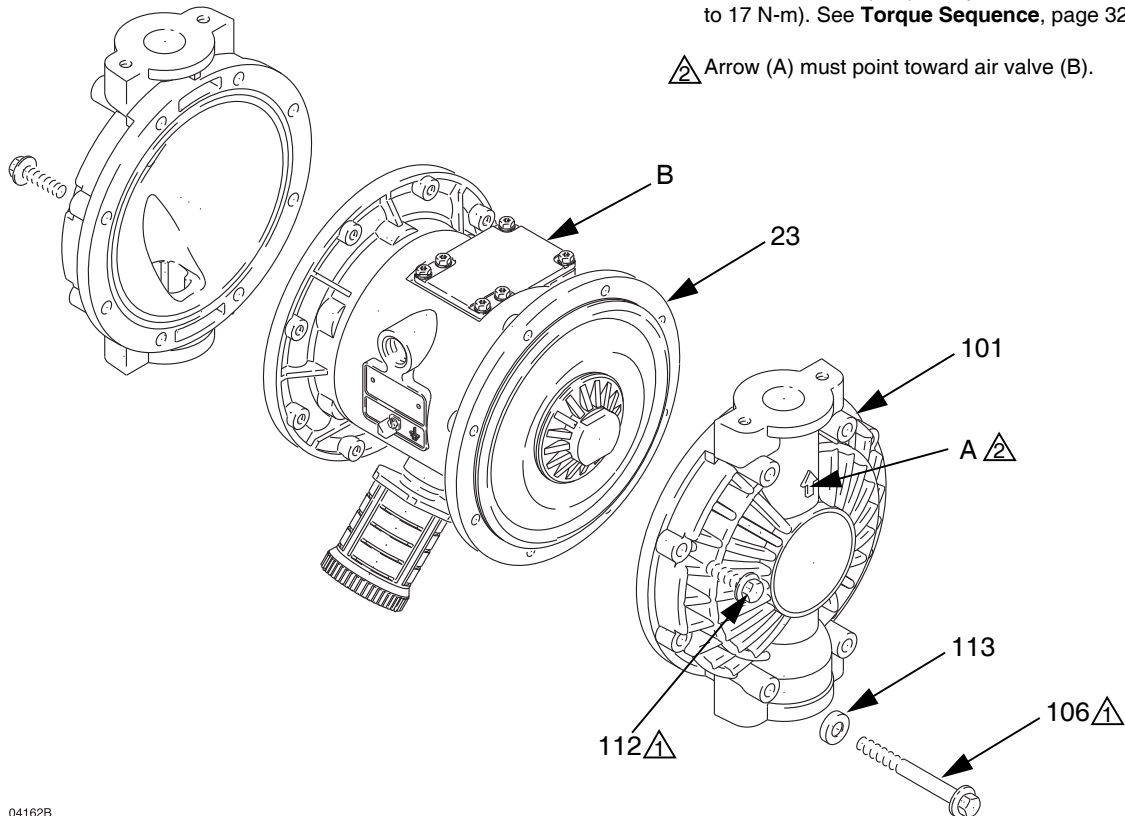

Fig. 12
3. Using a 10 mm socket wrench, remove the screws (106 and 112) holding the fluid covers (101) to the air covers (23). Pull the fluid covers (101) off the pump. See Fig. 12.
4. Apply medium-strength (blue) Loctite® or equivalent to the threads of the fluid-side plates (105). Hold one of the outer plates (105) with a wrench, and torque the other outer plate to 20 to 25 ft-lb (27 to 34 N-m at 100 rpm maximum). **Do not over-torque.**
5. Align the fluid covers (101) and the center housing (1) so the arrows (A) on the covers face the same direction as the air valve (B). Secure the covers with the screws (106 and 112), handtight. Place the bolt caps (113\*) on the longer screws (106), and install the longer screws in the top and bottom holes of the covers. See Fig. 12.
6. First, torque the longer screws (106) oppositely and evenly to 130 to 150 in-lb (14 to 17 N-m), using a 10 mm socket wrench. Then torque the shorter screws (112). See **Torque Sequence**, page 32.